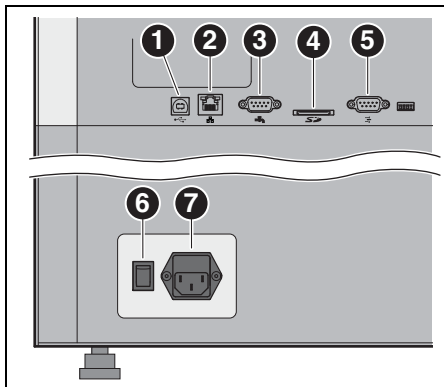
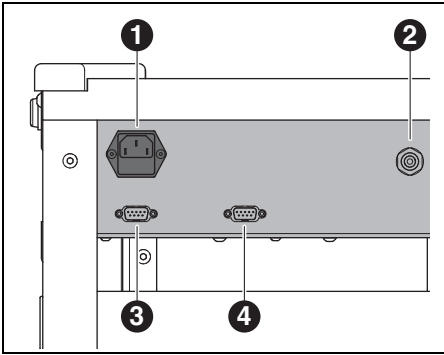

Fig. 11 Interfaces on the rear side of the milling machine
Fig. 12 Interfaces on the rear side of the supply unit
- ▷ Connect the control cable to the control interface for the supply unit on the rear side of the milling machine ([3] in Fig. 11) and to the rear side of the supply unit ([3] in Fig. 12).
- ▷ Connect the control cable of the extraction system to the control interface for extraction on the rear side of the supply unit ([4] in Fig. 12).
- ▷ Connect the mains cable to power supply connection ([1] in Fig. 12) of the supply unit as well as to a mains socket outlet.
- ▷ Connect a USB cable to the USB interface ([1] in fig. 11) of the milling machine and to a free USB port of the PC.